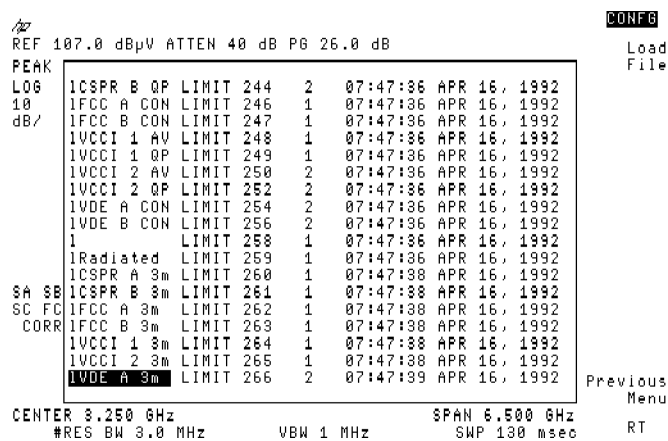

Figure 3-64. Loading a Limit Line
4. Use the front-panel knob to move the highlighted bar to the limit-line file of interest. For the VDE 0871, Class A, Radiated 3m test limit, the file would be **1VDE A 3m**. Refer to Table 3-1 for a listing of the limit line files on the HP 85712D EMC auto-measurement personality card. See Figure 3-64.